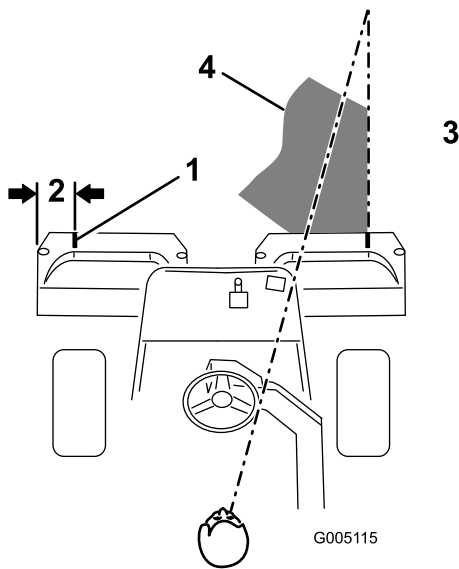
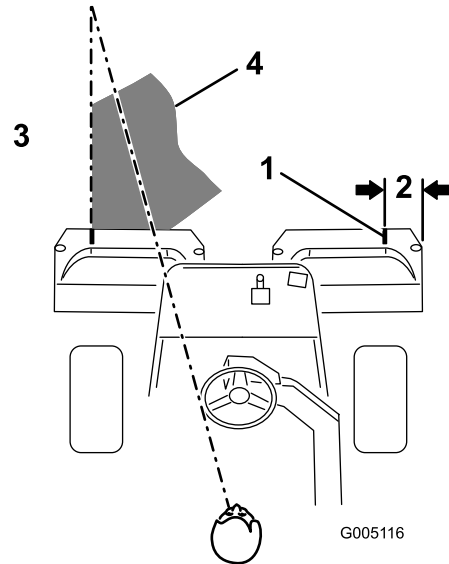

Figure 30
Figure 31
2. Either place a strip of white tape or paint a line onto each basket paralleling the outer edge of each basket (Figure 30).
3. Overlap a minimal amount with the previous cut on return passes. To assist in maintaining a straight line across the green and keep the machine an equal distance from the edge of the previous cut, establish an imaginary sight line approximately 1.8 to 3 m (6 to 10 ft) ahead of the machine to the edge of the uncut portion of the green (Figure 30 and Figure 31). Some find it useful to include the outer edge of the steering wheel as part of the sight line; i.e. keep the steering wheel edge aligned with a point that is always kept the same distance away from the front of the machine (Figure 30 and Figure 31).